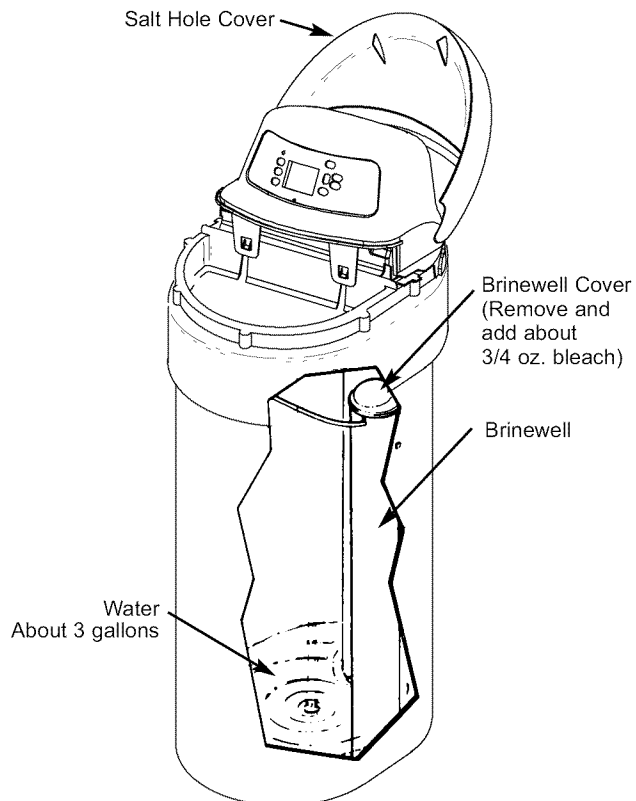

FIG. 30
3. Remove the brine well cover (Fig. 30) and pour about 3/4 ounce, or 1 to 2 tablespoons, of common 5.25%, *unscented*, household bleach (Clorox, Linco, BoPeep, White Sail, Eagle, etc.) in the softener brinewell. Replace the brinewell cover.